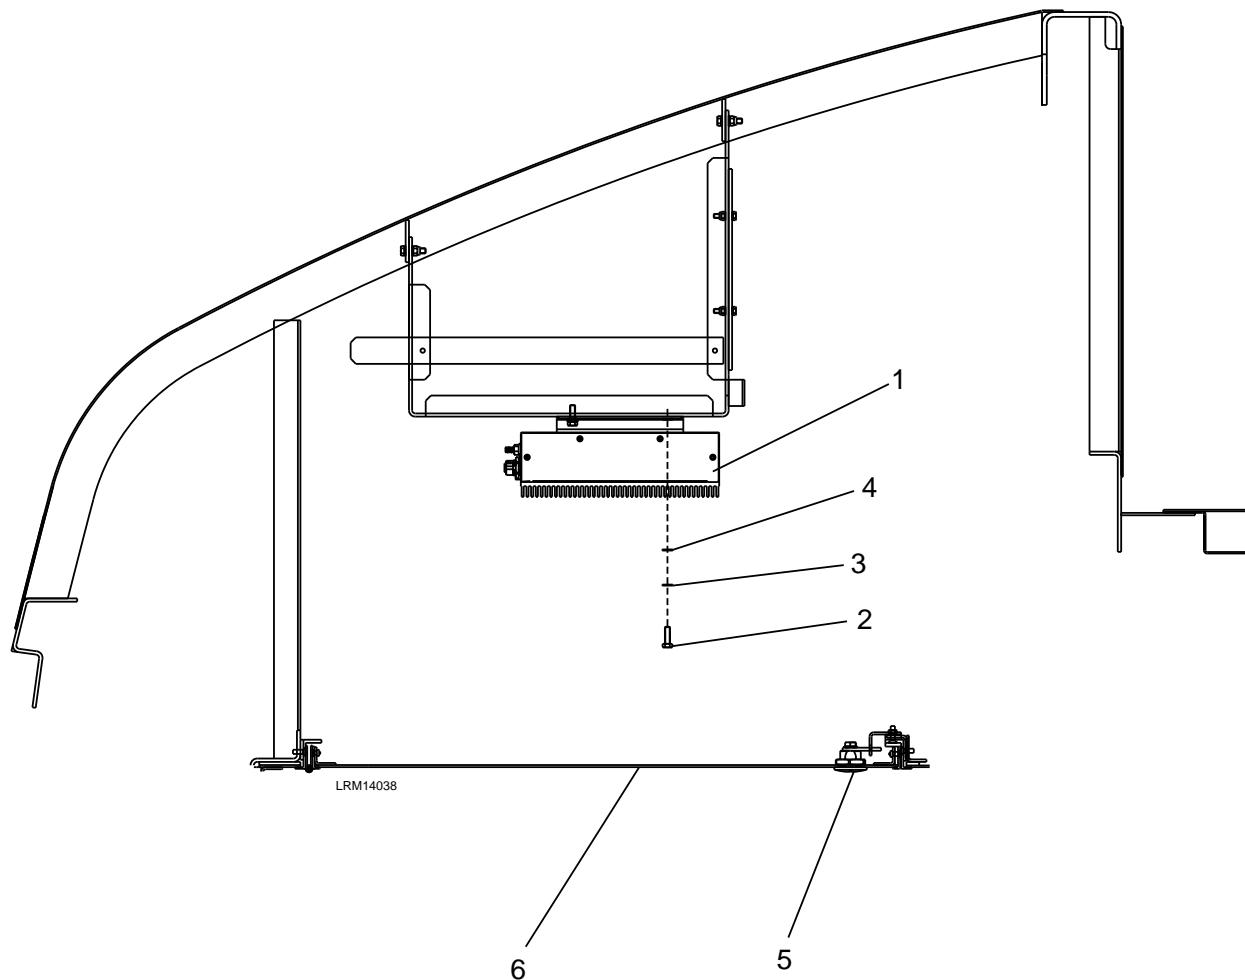

Figure 7-7: Passenger Information Controller
1. Unlock the two locks (5) and lower the cab ceiling panel (6) to access the Passenger Information Controller (1) and disconnect the electrical connections using a Torque Screwdriver for the M12 connections. See Figure 7-7.
2. Remove the four M4 x 16 bolts (2), M4 lock washers (3), and M4 plain washers (4).
3. Carefully remove the Passenger Information Controller (1).